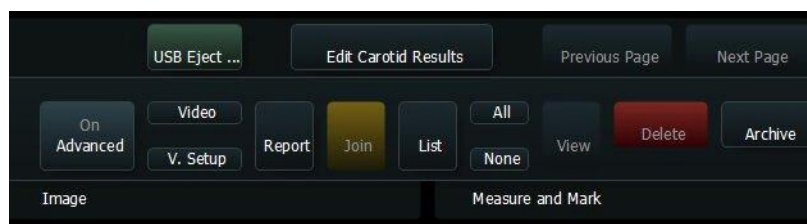

Figure 9-3. The editing tab for reports.
- 2 Click the editing tab for the results you want in your report (Edit Carotid Results in Fig 9-3).